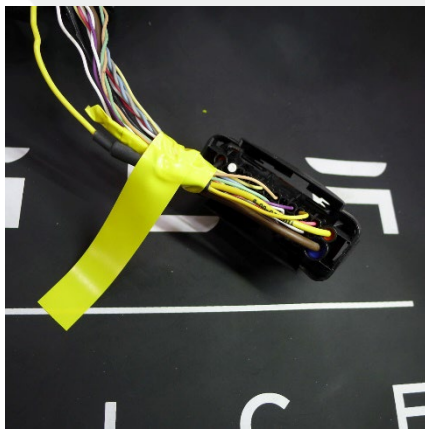
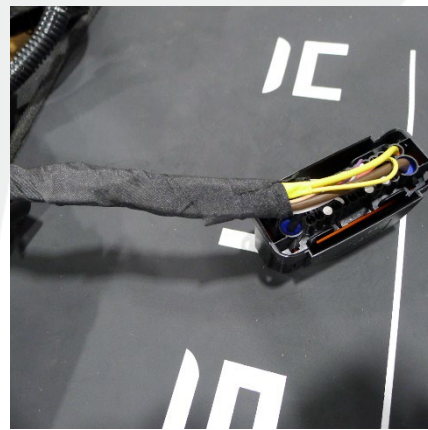

Figure 31
Figure 32
26. Bundle the white wire and excess jumper wire neatly into the electrical harness with yellow tape (Figure 31), and then wrap the harness with anti-abrasion tape (Figure 32).